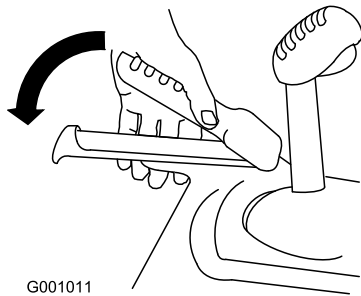

Figure 32
2. Engage the traction lever and hold it in place (Figure 32).